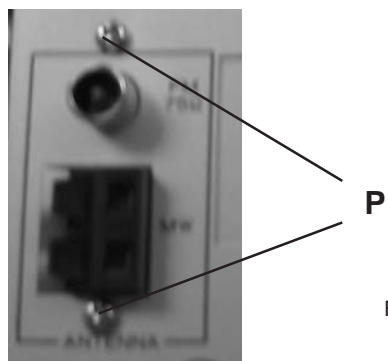

Figure 13
- 1) Loosen 2 screws "P" as shown in Figure 13.